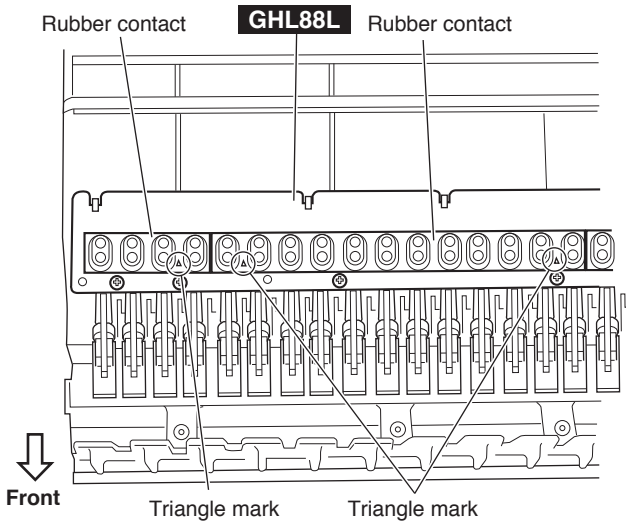

Fig.17
* A triangle mark (Δ) on the rubber contact must face the front. (Fig.17)